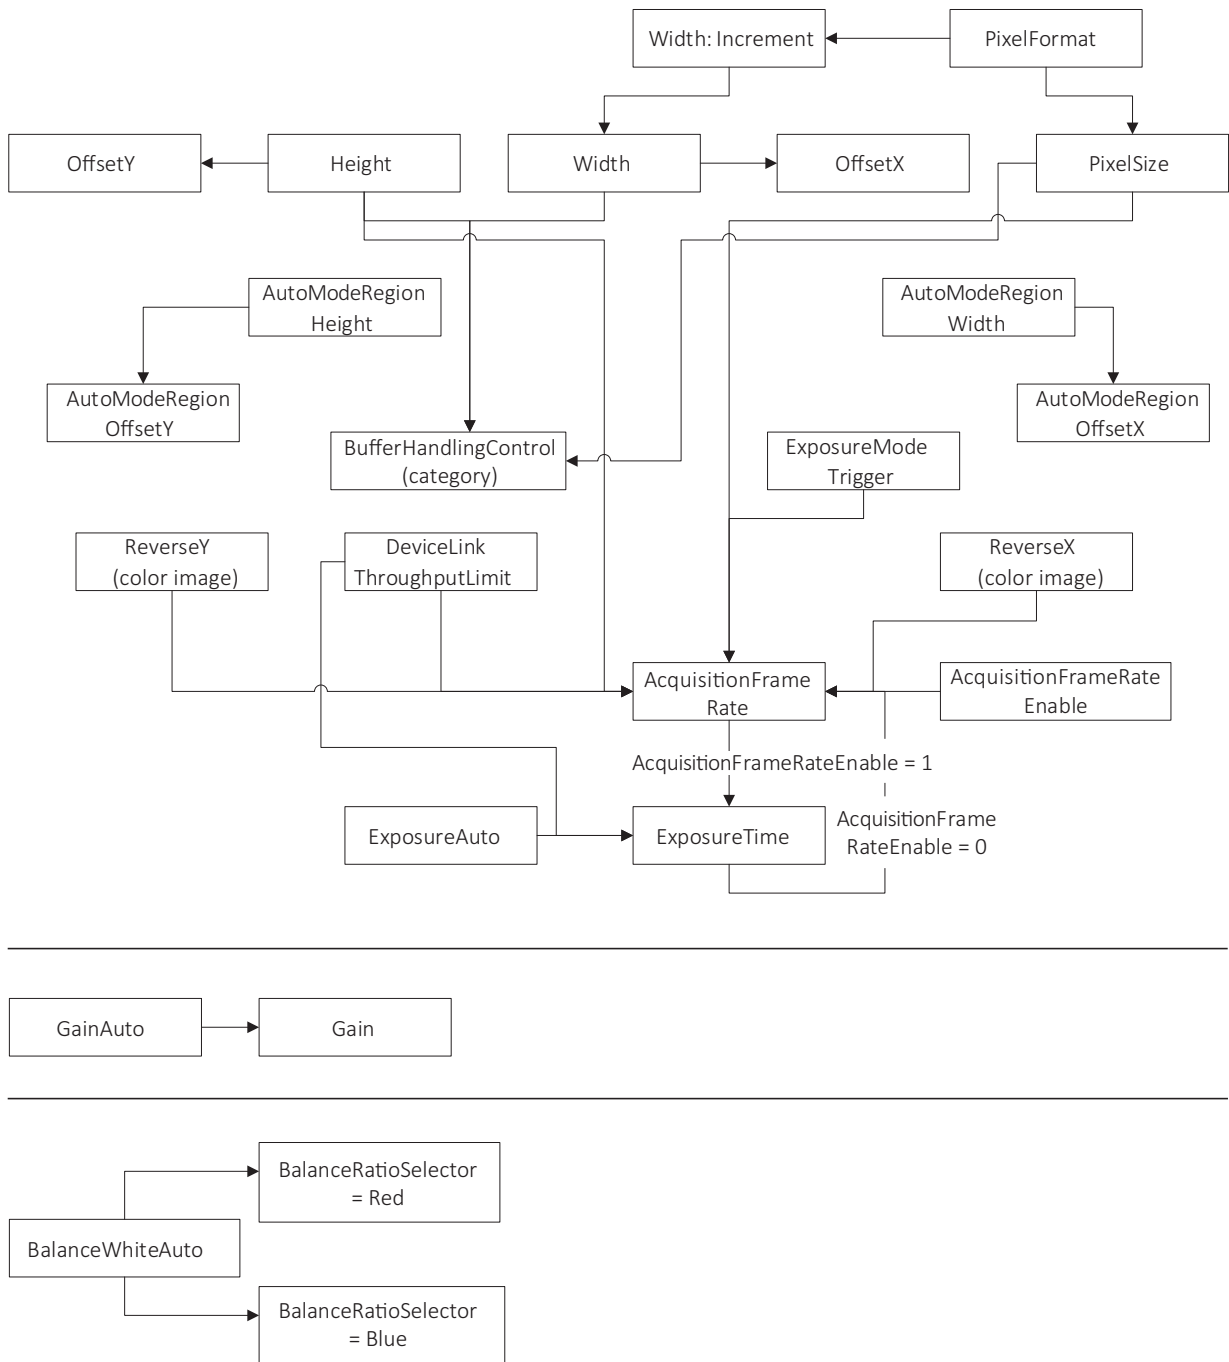

Figure 61: Interdependencies between features
The conversion between time and clock cycles affects control values. Features for pixel format, bandwidth, ROI, exposure time, and triggering are related to each other. Changing values for one feature can change values for another feature. For example, frame rates can be reduced when `PixelFormat` is changed subsequently. Figure 61 shows the interdependencies.
- To avoid readjustments, apply settings in the order shown in Figure 61.